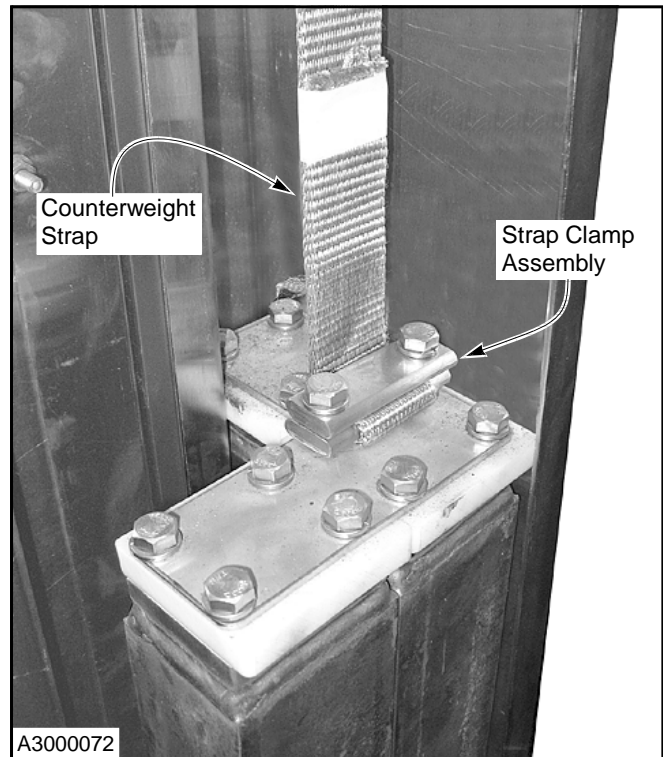

Figure 34
5. Secure the strap to the counterweight using the strap clamp assembly provided in the small parts carton. Place the clamp as close as possible to the counterweight hanger bracket, with the clamp assembly tightly secured around the strap. (See Figure 34.)